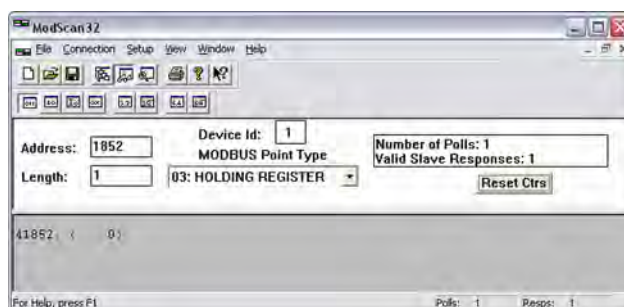

Fig. 224: Modscan32 at address 41852
- ➔ Set the configuration to address parameter 1851 as shown in (Fig. 224).